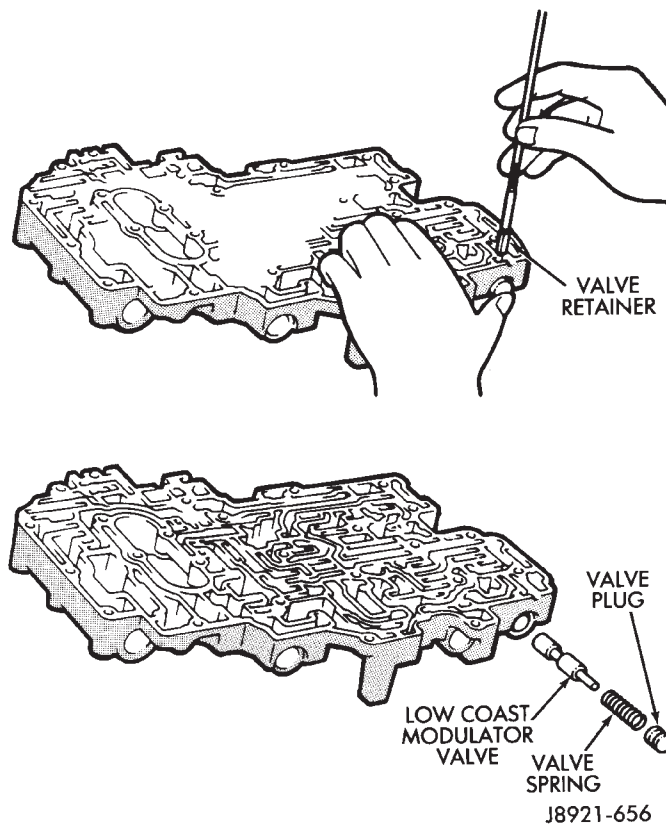

Fig. 13 Removing/Installing Low Coast Modulator Valve
(13) Remove low coast modulator valve retainer and remove valve plug, spring and low coast modulator valve (Fig. 13).
(14) Clean the upper body components with solvent and dry them with compressed air only. Do not use shop towels or rags. Lint or foreign material from towels or rags can interfere with valve operation.
(15) Inspect condition of the upper body components. Replace the upper body if any of the bores are scored or corroded. Replace any valves, plugs or sleeves if scored or worn. Replace the oil strainer if cut, torn or damaged in any way.
(3) Install low coast modulator valve, spring and plug in valve bore. Press valve plug inward and install retainer (Fig. 13).